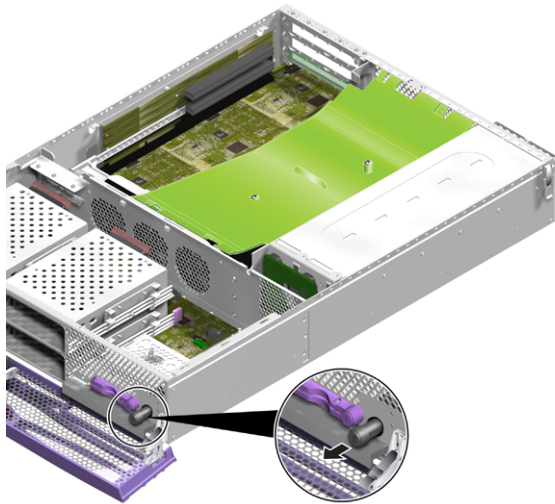

FIGURE 1-31 Removing the Keyswitch Assembly
6. Remove the keyswitch assembly through the server's front panel (FIGURE 1-31).